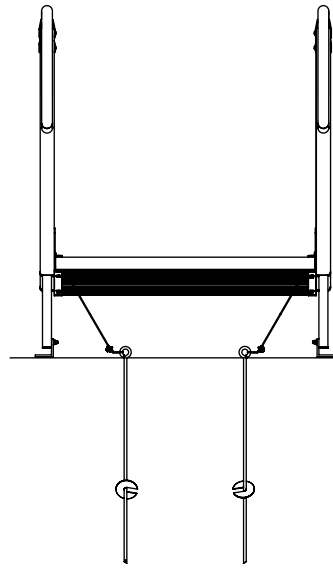

Fig.5.5
5.2 HURRICANE TIE DOWN KIT (RAMPS): Ramp sections require a tie down on each side of the ramp section at the lowest post location at each ramp section. Locate hex bolt on bottom side of ramp and loosen, loop wire around hex bolt and clamp with wire clamp re-tighten hex bolt. Screw auger vertically into the ground leaving only the eye of the auger exposed (Fig.5.5). Place other end of wire through the auger eye cinch tight and clamp with wire clamp (Fig.5.6). Cut off any excess rope and tape ends with electrical tape to ensure that the wire rope will not fray.